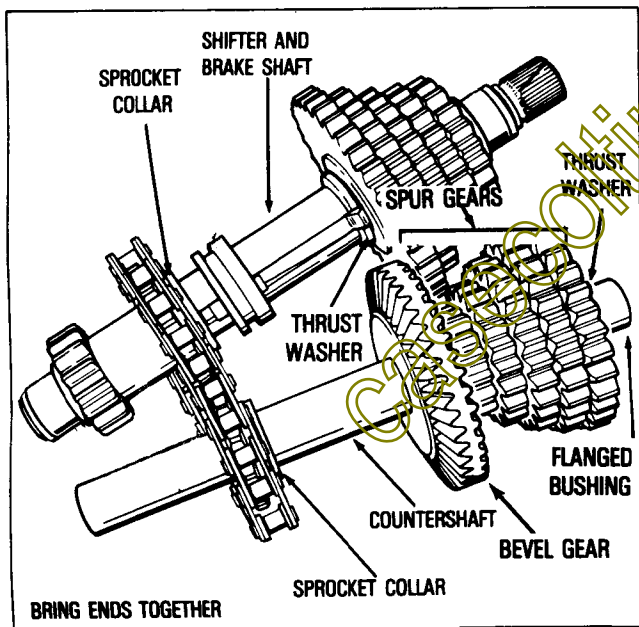

FIGURE 6
- Angle the shifter and brakeshaft and countershaft chain sprocket ends toward each other. (Figure 6) Note the collar on the sprockets face the bevel gear. Remove chain.
- From the countershaft, remove the sprocket, flanged bushing, thrust washer, spur gears, and bevel gear. (See figure 6). The gears are splined to the countershaft.